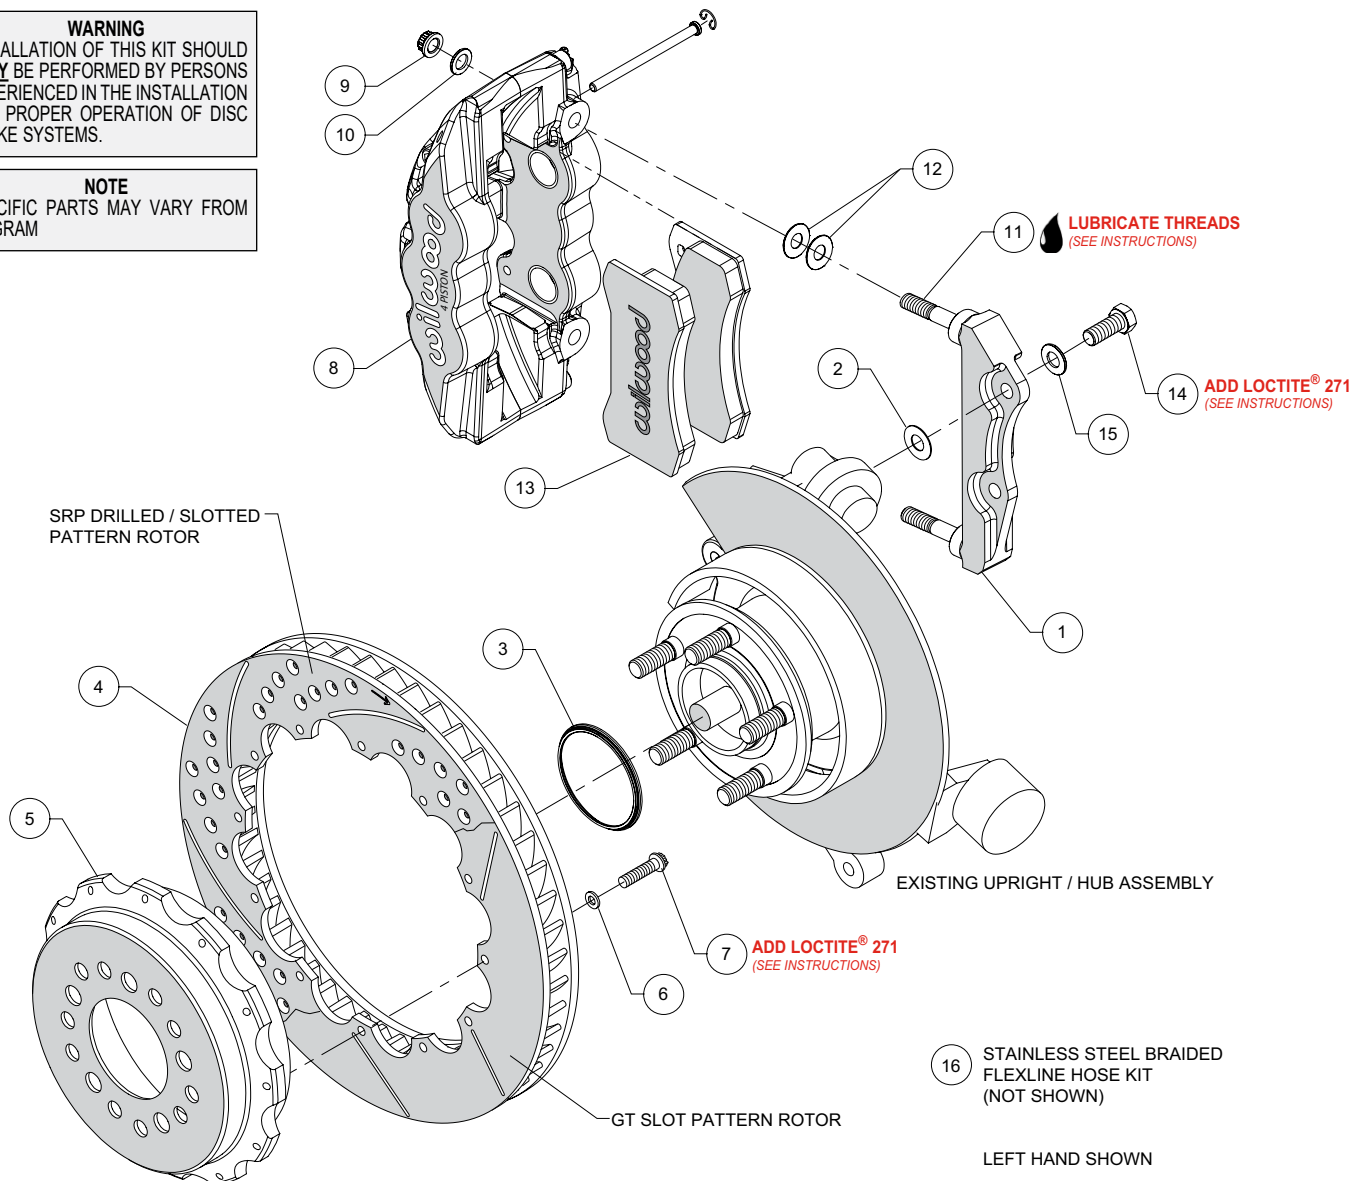
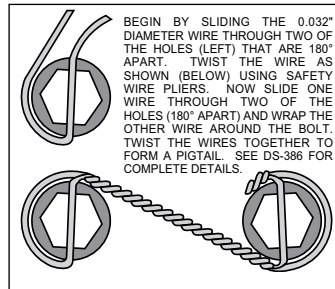

Figure 1. Typical Installation Configuration
Figure 3. Safety Wire Diagram
Assembly Instructions (numbers in parenthesis refer to the parts list and Figure 1 on the preceding pages):
- The caliper mount bracket (1) should initially be installed with clean, dry threads on the mounting bolts. Orient the bracket as shown in Figure 1 and Photo 1, and install using bolts (14) and washers (15), Figure 1. Initially place one .033" thick shim (2) on each bolt between the bracket and upright, Figure 1. Temporarily tighten the mounting bolts. **NOTE: The bracket must fit squarely against the mount bosses on the upright.** Inspect for interference from casting irregularities, machining ridges, burrs, etc. Later, after the caliper alignment has been checked, the mount bolts will be secured using red *Loctite*® 271.
- Orient the rotor (4) and the hat (5) as shown in Figure 1 and Photo 2. Attach rotor to hat using bolts (7) and washers (6). Apply red *Loctite*® 271 to the bolt threads and torque to 155 in-lb using a criss-cross pattern. For an added measure of security, the bolts may be safety wired using standard 0.032 inch diameter stainless steel safety wire as shown in Figure 3. Please refer to Wilwood's data sheet DS-386 (available at www.wilwood.com/pdf/DataSheets/ds386.pdf) for complete safety wire installation instructions.
- Slide the rotor registration adapter (3) onto the axle register on the axle hub with the smaller O.D. facing outward, Photo 3. Slide the hat/rotor assembly onto the axle hub. **NOTE: The hat must fit flush against the axle hub flange or excessive rotor run out may result.** Install three lug nuts (finger tight) to keep the hat/rotor assembly in place while continuing with the installation.
- Lubricate the caliper mounting studs (11) with lightweight oil. Initially place two .030" thick shims (12) on each stud between the caliper and the bracket, as shown in Figure 1 and Photo 4. Mount the caliper (8) onto the bracket (1) using lock nuts (9) and washers (10), Figure 1. Temporarily tighten the lock nuts and view the rotor through the top opening of the caliper. The rotor should be centered in the caliper, Photo 5. If not, adjust by adding or subtracting shims (2) between the bracket and the upright. Always use the same amount of shims on each of the two mounting bolts. Once the caliper alignment is correct, remove the bracket mounting bolts one at a time, apply red *Loctite*® 271 to the threads, and torque to 60 ft-lb.
- Remove the two pad retaining pins from the caliper (8) by carefully popping out the pin retaining clips and sliding out the pins. Insert the brake pads (13) into the caliper from the bottom, Figure 1 and Photo 6. With the friction material facing the rotor, secure the brake pads in place with the pad retaining pins and clips, Photo 7. Reinstall the caliper onto the caliper mounting bracket and temporarily tighten the lock nuts. Check that the top of the brake pad is flush with the outside diameter of the rotor, Photo 8. If not, adjust by adding or subtracting shims (12) between the caliper and the bracket. After the caliper pad height is set, torque the caliper lock nuts (12) to 47 ft-lb.